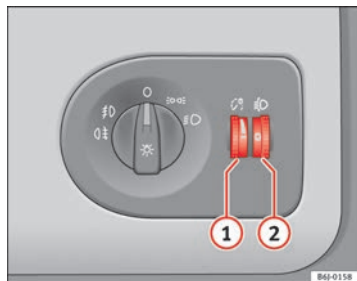

Fig. 56 Dash panel: regulation for instrument and switch lighting and headlight range control
When the headlights are switched on, the brightness of the instruments and switch lighting can be regulated to suit your requirements by turning the thumb wheel ⇒ Fig. 56 ①.